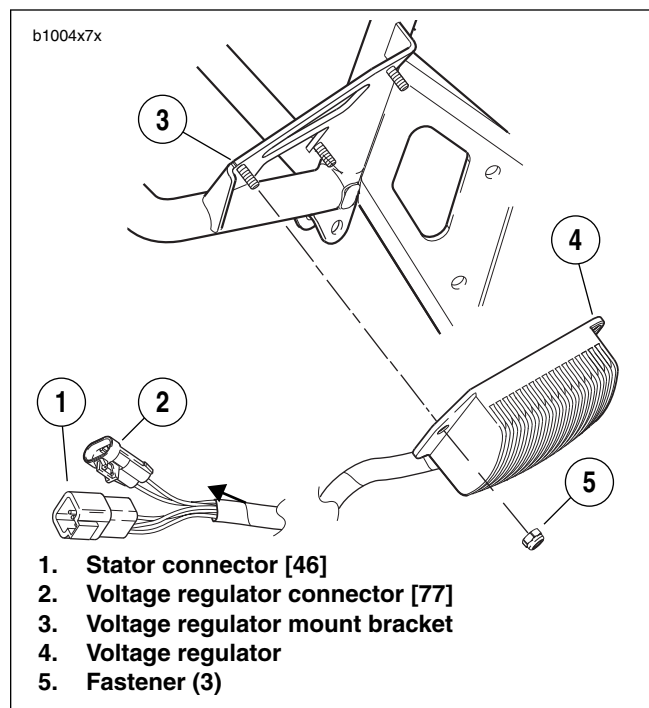

Figure 7-37. Voltage Regulator
3. See Figure 7-37. Disconnect stator connector [46] (1) and voltage regulator connector [77] (2) located under sprocket cover. See 7.25 SPROCKET COVER WIRING.
4. Remove fasteners (5) and voltage regulator (4) from bracket (3).
1. See Figure 7-37. Attach **new** voltage regulator (4) to bracket (3). Tighten **new** fasteners (5) to 36-60 **in-lbs** (4-6.8 Nm).
2. Connect stator connector [46] (1) and voltage regulator connector [77] (2) located under sprocket cover. See 7.25 SPROCKET COVER WIRING.